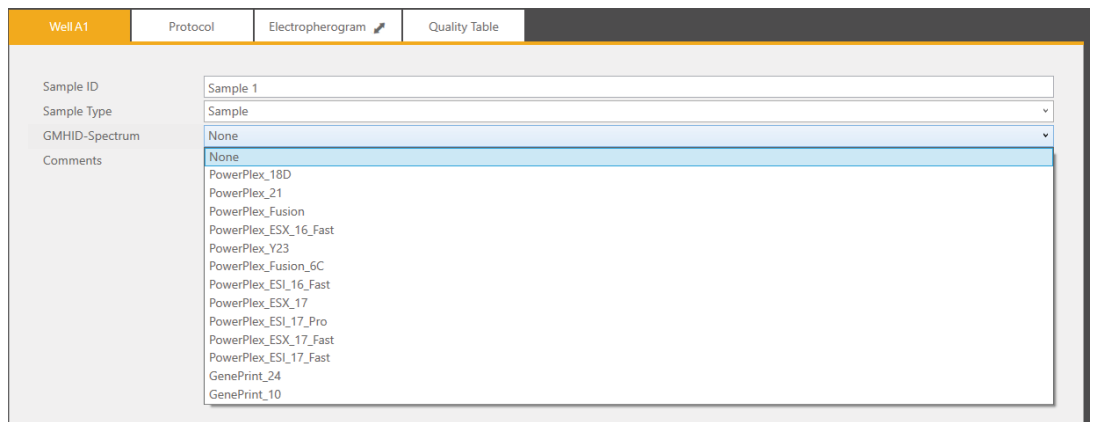

Figure 11. Drop-down options for GMHID-Spectrum run wizard templates.
6. **Optional:** Select **PowerPlex_Fusion** in the GMHID-Spectrum drop-down menu (Figure 11).